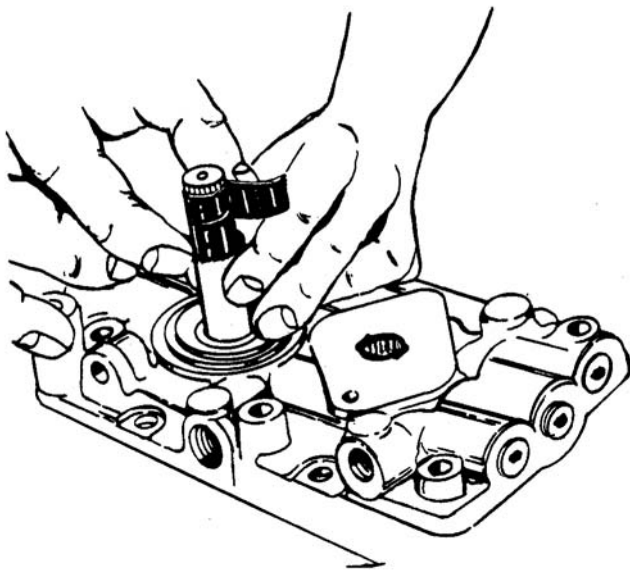

Figure 6-65. Covering Pump Shaft With Tape
- i. Cover shaft with thin tape to protect oil seal lip. See Figure 6-65.